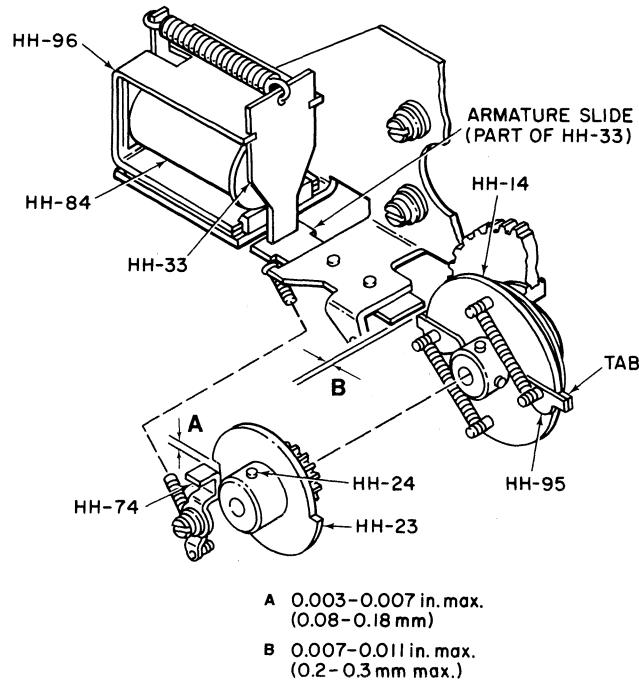

Figure 5-4A. TWO ADJUSTMENTS, GEAR WITH STOP CAM (HH-23) AND INSIDE CAM (HH-14)
#### A. Gear with Stop Cam (HH-23) and Back Stopper (HH-74) Refer to Figure 8-9 (HH and Fig. 5-4A)
It is at this point, when the shaft is released, that an adjustment must be made to the gear with stop cam (HH-23) to prevent counter-movement of paper. (Refer to Figure 5-4A)
- B. Clutch, Inner Cam (HH-14) - Armature Slide (HH-3) (Refer to Figure 5-4A)